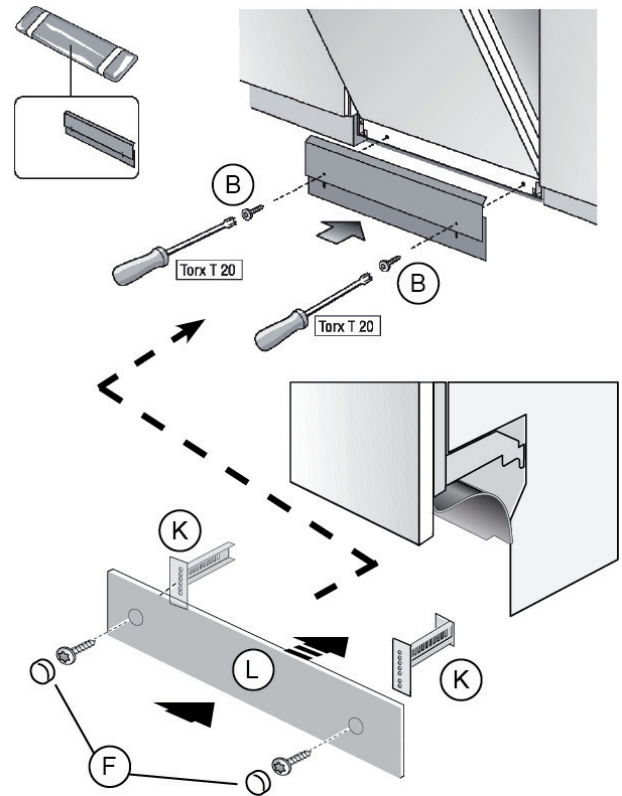
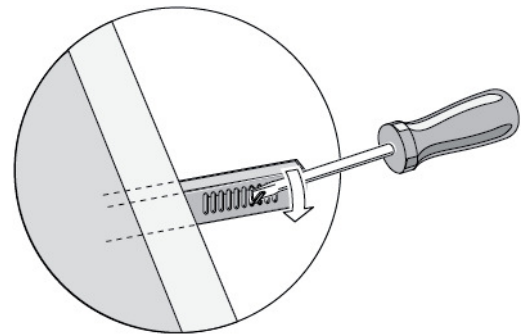

Figure 26
Figure 27
3. Drive the two black screws (B) through the holes in the toe panel to secure. Use the supplied screws to avoid damaging the dishwasher. See **Figure 26**.
5. For models with outer toe panel (3rd piece - L) slide the brackets (K) provided, into the slots of the toe panel you just attached.
6. Once you determine the correct position for the brackets, remove the bracket and bend the metal tab. See **Figure 27**. This ensures that the toe panel will not slide in further than you need.
8. Attach the outer toe panel (L) onto the brackets and drive the screws provided in place to secure the toe panel ensuring that the rubber apron is completely hidden behind the outer toe panel.